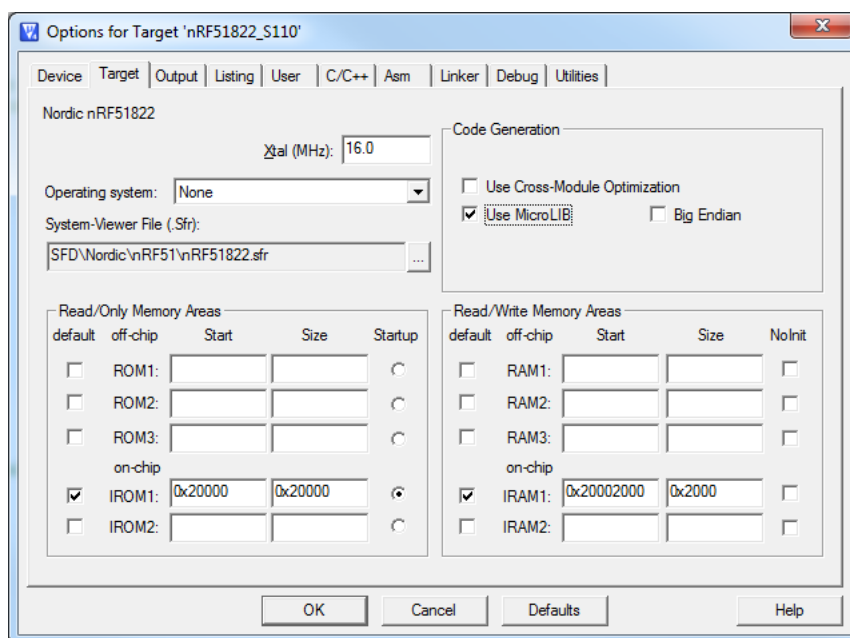

Figure 24 Memory layout with example SoftDevice
6. In **Read/Write Memory Areas**, define values for **Start** and **Size** as seen in *Figure 24*.